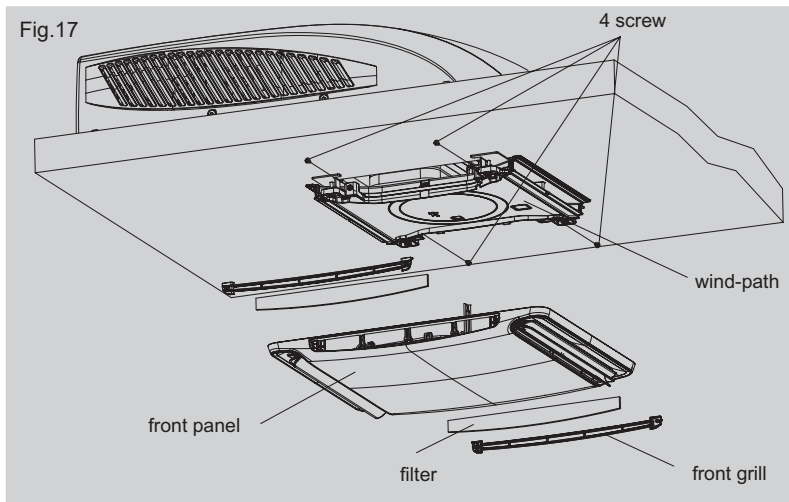

Fig.17
2. Secure the ceiling grille to the ceiling assembly wind-path with 4 screws. (see Fig.17).